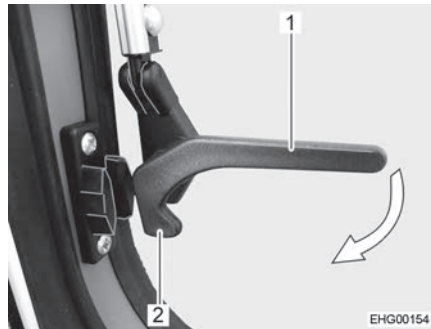

Fig. 31 Catch lever, on the side ("open" position)
- Turn the catch levers on the side (Fig. 31,1) a quarter turn towards the window frame until the locking catch (Fig. 31,2) engages.